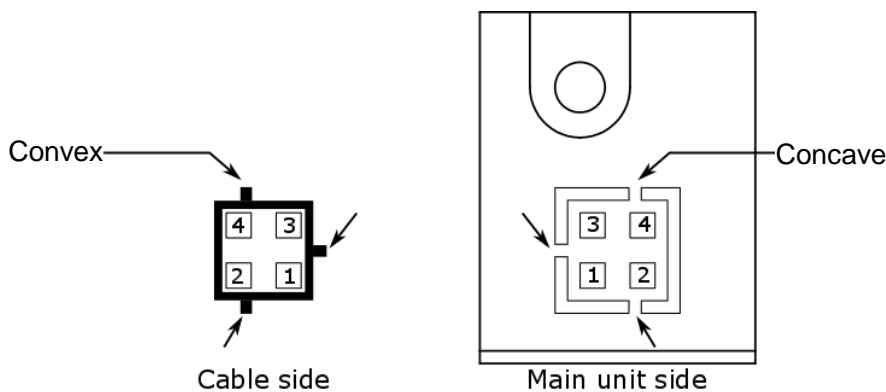

Figure 1-4 Pin assignment
- There are concave and convex parts in the power connector, as shown in Figure 1-4, to prevent the wrong connection. If the orientation of the connector is correct, excessive force is not required. Please be careful of the orientation of the connector.